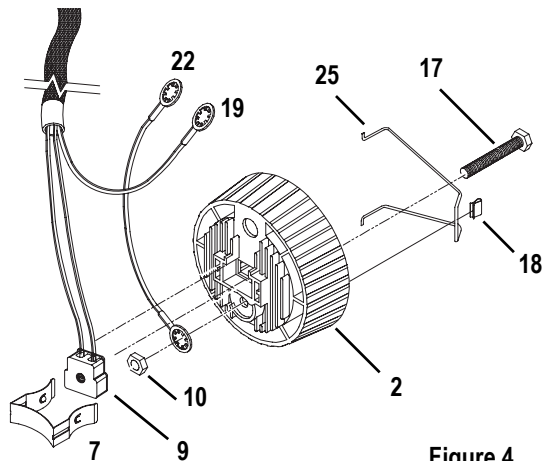

Figure 4
- Step 3: Insert the bolt (17) through the light baffle socket casting (2). See Figure 4.
- Step 4: Install the green ground wire assemblies (19 and 22) on the bolt (17) with the prongs on the crimped connectors toward the casting. Run both wires through the indent in the lip around the bolt hole. Secure with nut (10) and torque to 60 inch pounds.
- Step 5: Place the socket assembly (9) into the light baffle socket casting (2). Be sure it is well seated.
- Step 6: Install the lamp retainer spring (7). The lamp retainer spring secures the socket. Insert the spring one end at a time, making sure the rectangular slot in each side of the spring seats on the corresponding tab in the casting.